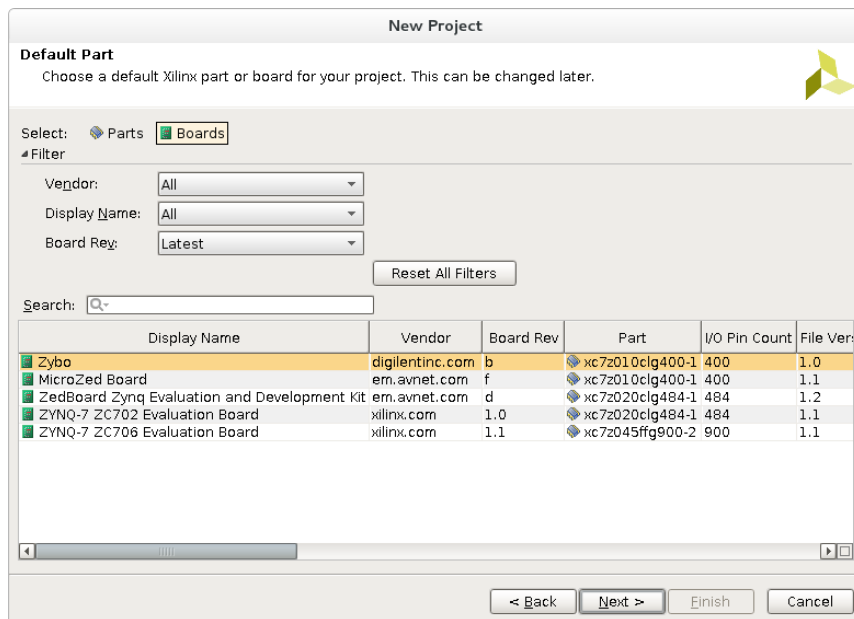

Figure 2: ZYBO Board
- To begin, open vivado and create a new project as shown in previous lab with one exception. In the Default part window, click on 'Boards' and select 'Zybo' as shown in Figure 2. As discussed in Lab 1 we will select hardware using the 'Board' tab from now on.